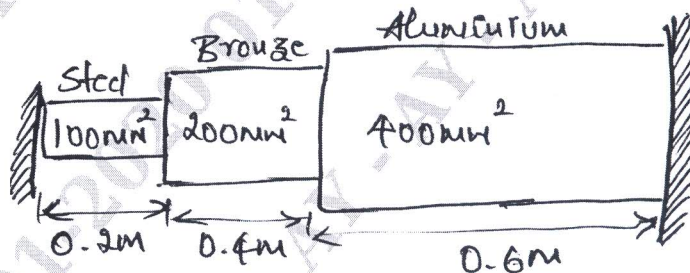

Fig.Q2(a)
- 2 a. A compound bar consisting of steel, Bronze and aluminum bars connected in series is held between two supports as shown in Fig.Q2(a). When the temperature of the compound bar is increased by 50°C , determine the stress induced in each bar. Consider the two cases: